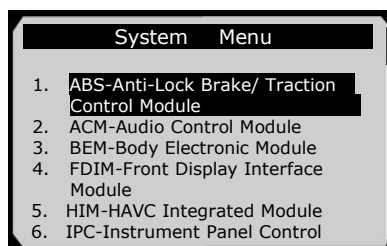

Figure 5.18
**NOTE:** The actual systems displayed in the **System Menu** screen may be different from Figure 5.18 due to various vehicle configurations.